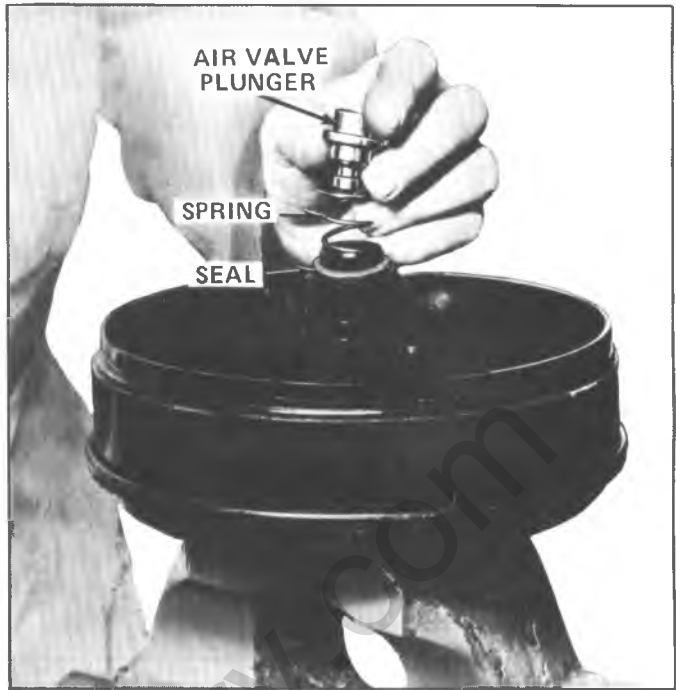

Fig. 9D--Installing Air Valve Assembly
7. Apply a light coat of Delco Silicone Lube #5459912 (or equivalent) to front and rear bearing surfaces of air valve, being careful not to apply lubricant to rubber grommet inside valve. Install square ring seal on shoulder of front plate hub. Install air valve return spring and valve in base of front plate hub (fig. 9D).